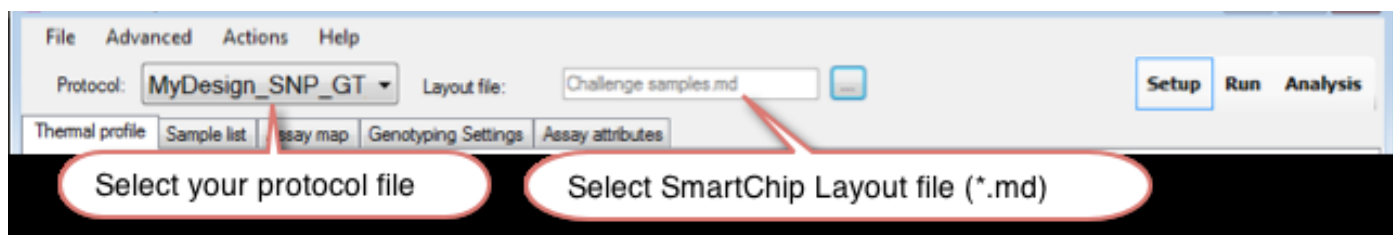

Figure 55. Selecting a saved protocol from a previous experiment for your SmartChip MyDesign Chip.
- Select an appropriate saved protocol from a previous experiment (Figure 55).